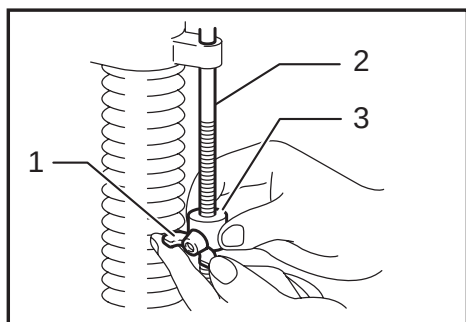

Fig.1
► **Fig.1:** 1. Wing bolt 2. Stopper pole 3. Stopper